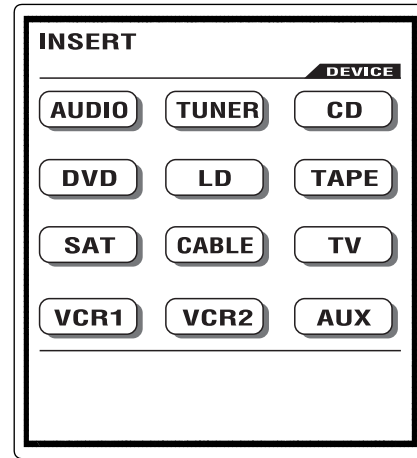

Figure 15
2. Select the device you wish to create as a new button. Refer to figure 15.